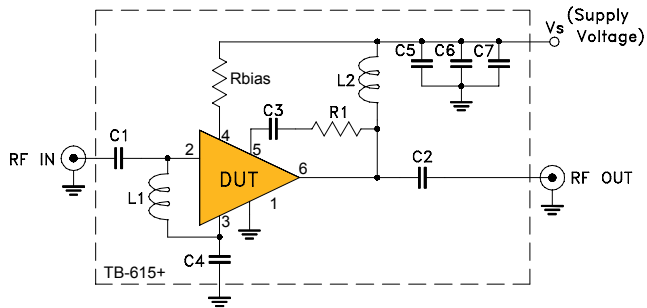

Fig 1. Application and Characterization circuit
1. Measured on Mini-Circuits Characterization test board. Die package in 2x2 mm, 8-lead MCLP package and soldered on TB-615+. See Characterization Test Circuit (Fig. 1) R1=267Ω
2. Measured on Mini-Circuits Characterization test board. See Characterization Test Circuit (Fig. 1) R1=93Ω